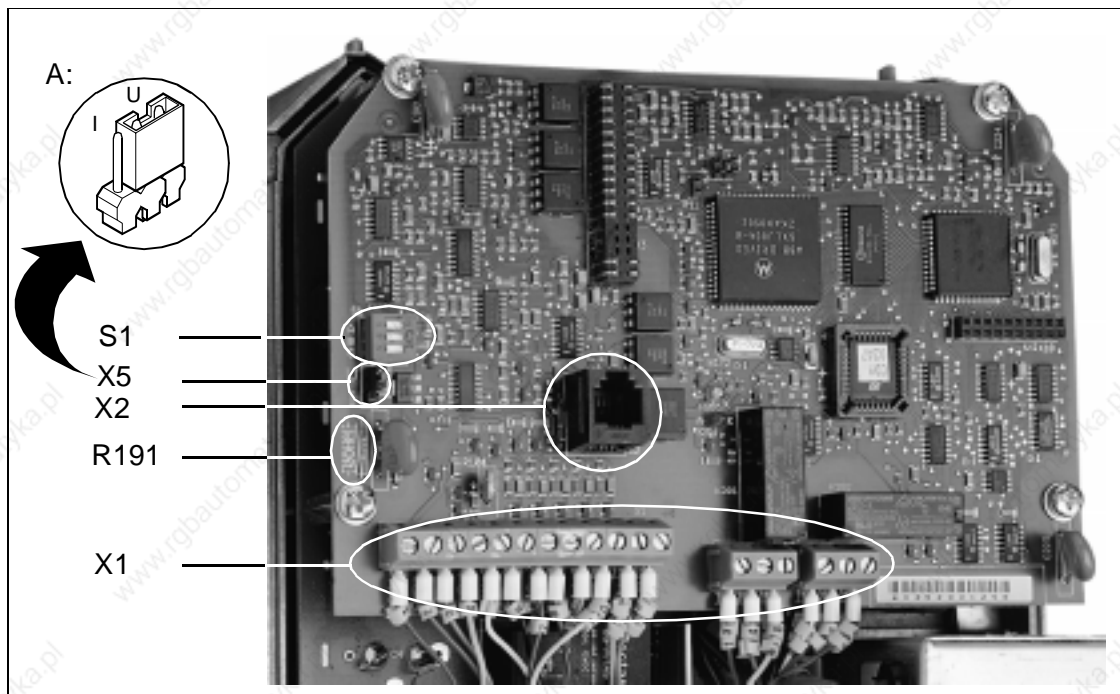

Figure 4-1 Control Card
Figure 4-1 shows the location of the control terminal block, X1 and the configuration switches and jumpers on the ACS 300 control card.
- Notes for Figure 4-1**
- X5 = Jumper for selecting analog input signal. See detail A. I = current 0(4) to 20 mA and U = voltage 0(2) to 10 V.
- 1) Refer to Figure 4-1 “Control Card” on page 22 for voltage/current reference selection.
The analog input, AI, is used to set the speed reference using an external potentiometer or analog signal. By setting jumper X5, the input can be configured to accept either a voltage signal of 0(2) to 10 V or a current signal of 0(4) to 20 mA. Refer to Figure 4-1. The analog input can scaled and configured for joystick operation using the REF OFFSET parameter as described on page 55. The AI FAULT parameter described on page 64 is used to enable and disable signal loss protection. When the PI controller is activated, the analog input is used only as the actual value (process feedback) input. Refer to the PI GAIN parameter on page 68.